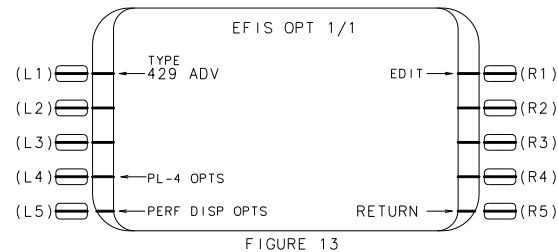

FIGURE 13
- PRESS THE NEXT FUNCTION KEY, THEN PRESS THE EFIS LSK THE EFIS OPTS PAGE WILL APPEAR (REF FIGURE 13).